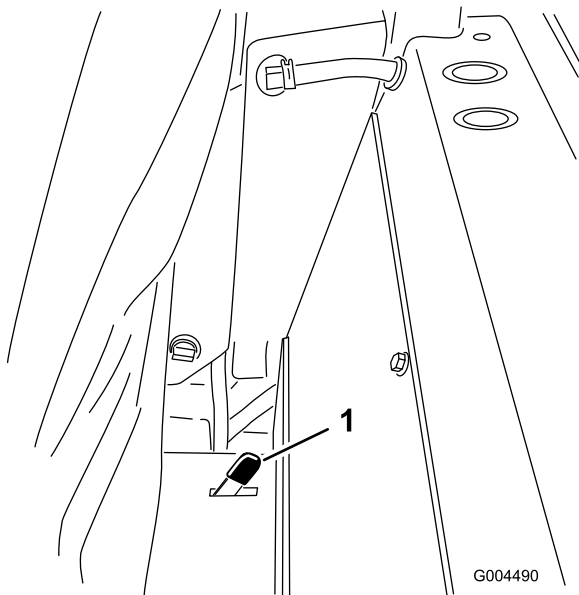

Figure 34
2. Push one of the seat latches, located behind and to the sides of the seat, rearward to unlatch the seat and pull forward on the top of the seat (Figure 34).